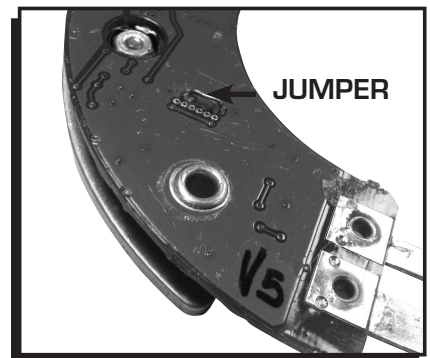

Figure 14 Disable the Rev Limit.
**No Rev Limit:** To disable the rev limit function, cut and remove the jumper shown in Figure 14.